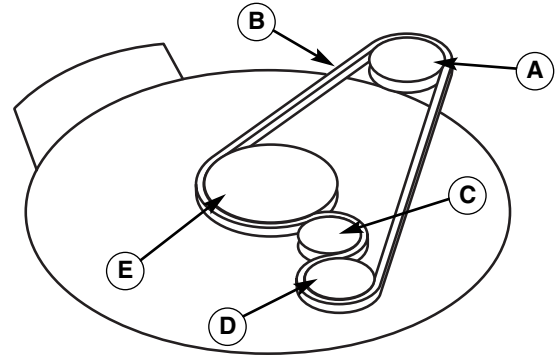

Figure 55. Mower Belt Routing - 33" Decks
2. Pull the idler pulley (C, Figure 55) to release belt tension and remove the mower drive belt (B) from the PTO pulley (A).
4. Install the new belt (B) as shown in Figure 55.